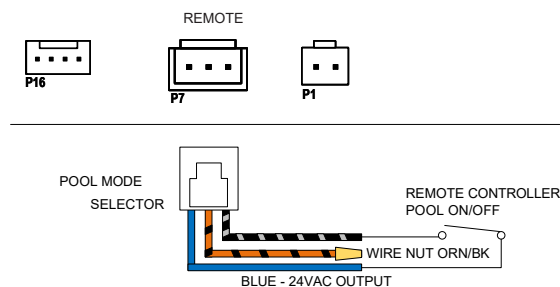

Figure 62. 2-Wire Remote Harness Installation
9. Attach wire nut on the ORANGE/BLACK wire of the 3-wire remote harness. See Figure 62.